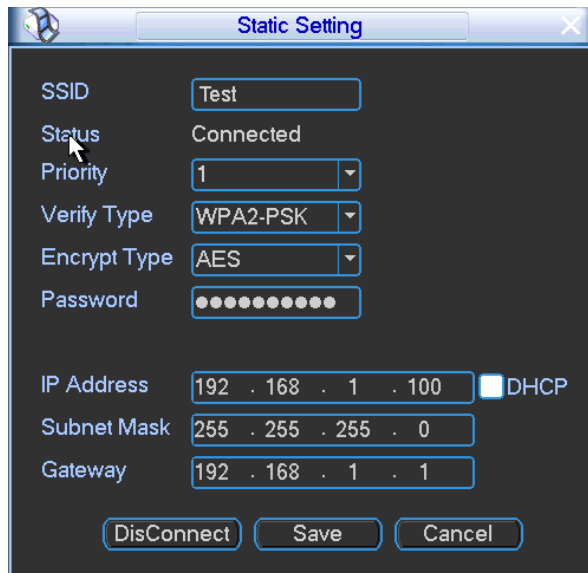

Figure 4-30
After successfully connection, you can see the following interface. You can see it is connected now. See Figure 4-30.
- On the static setting interface (Figure 4-30), only the hotspot of WEB authentication mode can supports key-index.